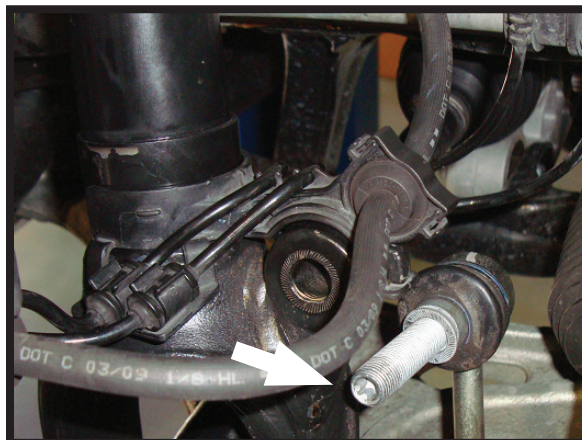

FIGURA 1
5. DESCONECTE EL ACOPLAMIENTO FINAL DE LA BARRA ESTABILIZADORA DEL AMORTIGUADOR. (FIGURA 1)